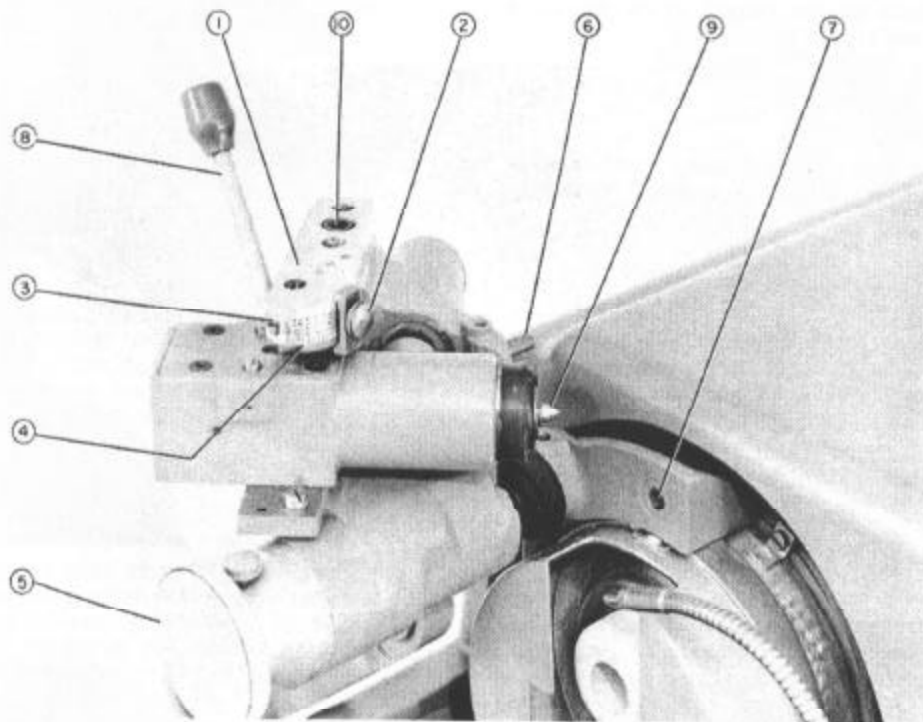
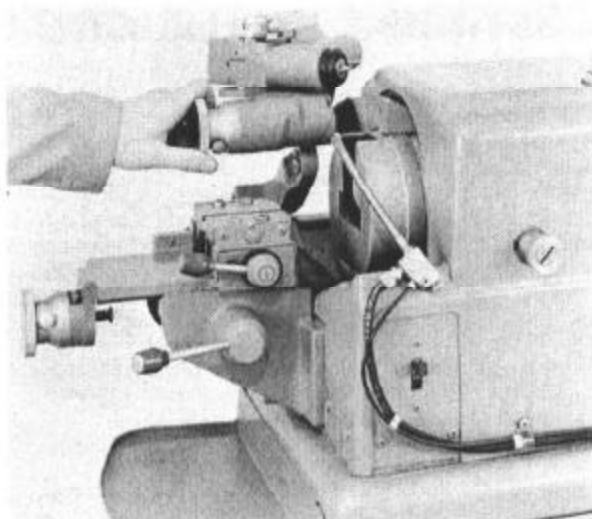

Figure 8.
Figure 10.
2. To shape the grinding wheel for the desired point angle, adjust the cam (1, Figure 8) on the truing device. Loosen the lock nut (2). Rotate the adjusting screw (3) until the scribe line on the cam coincides with the scribe line for the desired point angle (4). (When employing the cam supplied with the small drill attachment, line up the heel of the cam with the scribe line for the desired point angle.) Retighten the lock nut.
5. Retract the truing device until it may be swiveled clockwise by turning its micrometer feed control. (See Figures 10 and 11.) Advance the unit with the micrometer control so that the locating pin (6), Figure 8, seats in its mating hole (7). The micrometer control is then employed for movement of the diamond to and from the grinding wheel.
6. To dress the grinding wheel, swivel the dressing lever (8), Figure 8, so that the diamond travels along the face of the grinding wheel, up over its radius, and onto its outside diameter (see Figure 12). The radius and outside diameter of the grinding wheel are its most critical dimensions and should be very carefully dressed. The diamond should be passed over the grinding wheel at a moderate speed. A faster dress will result in a coarser finish on the grinding wheel, and eventually the drill. A slow dress will give a better finish on the grinding wheel, but this fine finish will have a tendency to burn the cutting edge of the drill.
7. The grinding wheel is dressed with a diamond nib (9), Figure 8, which should only be used for fine finish truing. It should be fed into the wheel no more than .001" per pass. When the radius of the grinding wheel is to be increased for larger size drills (see Section I-3, "Truing Cams"), it is recommended that this radius be dressed prior to dressing the entire grinding surface of the wheel. If the desired drill point angle requires a considerable amount of stock removal from the face of the grinding wheel, it is recommended that the initial stock removal be made with a coarse dressing stick. The truing device should then be employed for accurately finishing the grinding wheel. When using the dressing stick, be sure that no stock is removed from the outside diameter of the grinding wheel as this dimension is extremely critical.
To change the cams, remove the Allen screw (10, see Figure 8) at the center of the cam. Withdraw the cam from its two locating pins. To replace the cam, retract the cam follower by applying light pressure to the diamond nib. Seat the cam on its locating pins and tighten the Allen screw. Every time the cam is changed, the grinding wheel must be trued and the diamond must be reset. See instructions below.